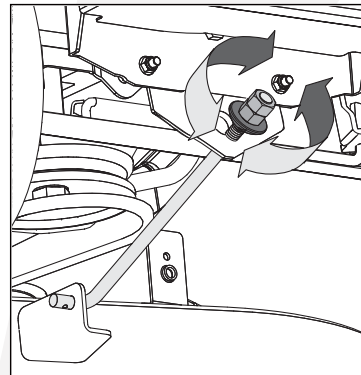

Fig. 25
3. If front-to-back adjustment is needed, after loosening the outer jam nut, turn the inner adjustment nut clockwise to raise or counterclockwise to lower the front of the cutting deck. (Fig. 25)
5. Without moving the inner adjustment nut, re-tighten the outer jam nut to secure the inner adjustment nut in place. (Fig. 25)